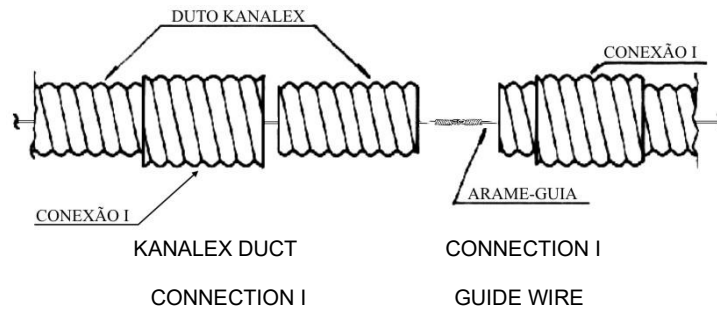

Figure 39
- Screw the two connections I (Figure 39).